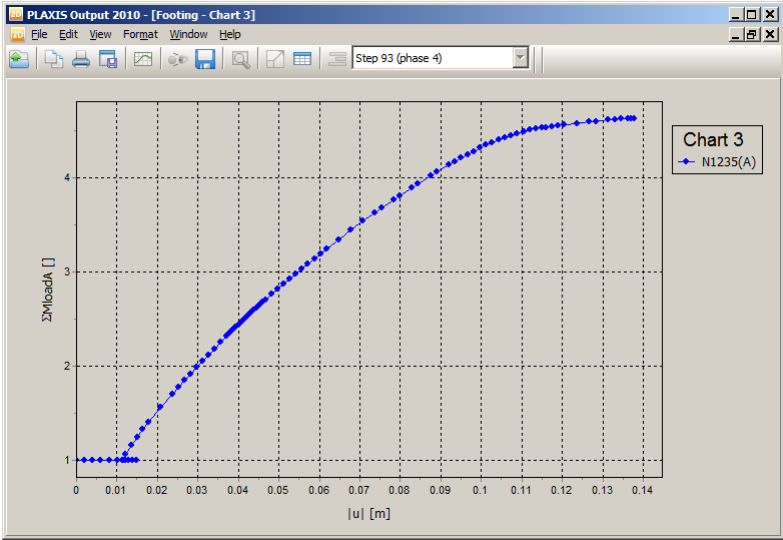

Figure 20: Load displacement curve for the footing
- Press *OK* to show the resulting curve. See also figure 20.